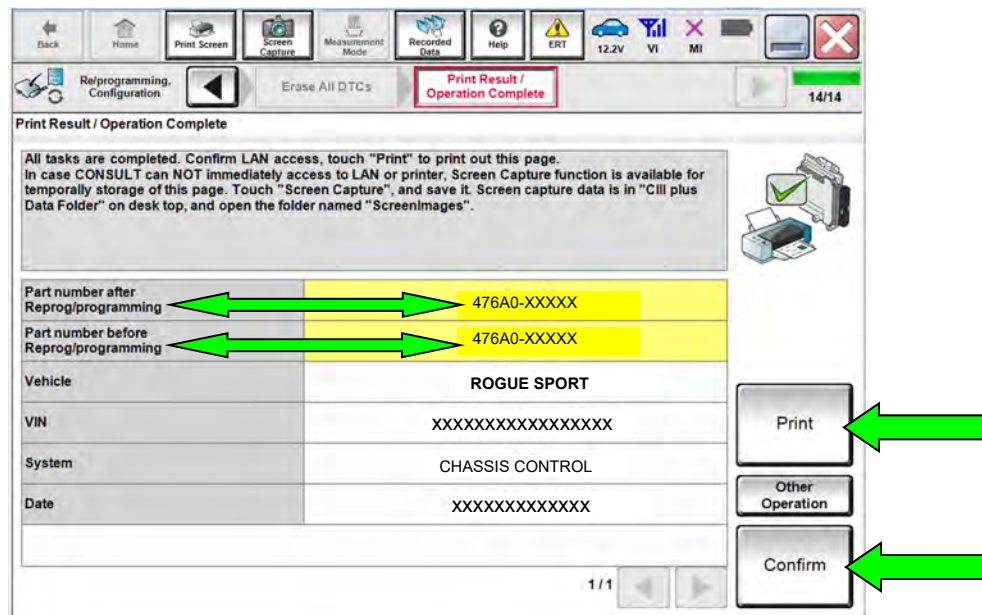

Figure 21
- Print a copy of the screen in Figure 21 by selecting **Print**.